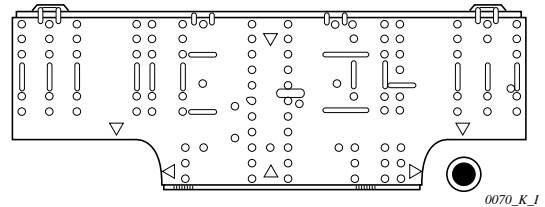

Fig. 3-51
- (1) Attach the rear panel to the wall with the 8 screws provided. (Fig. 3-51)